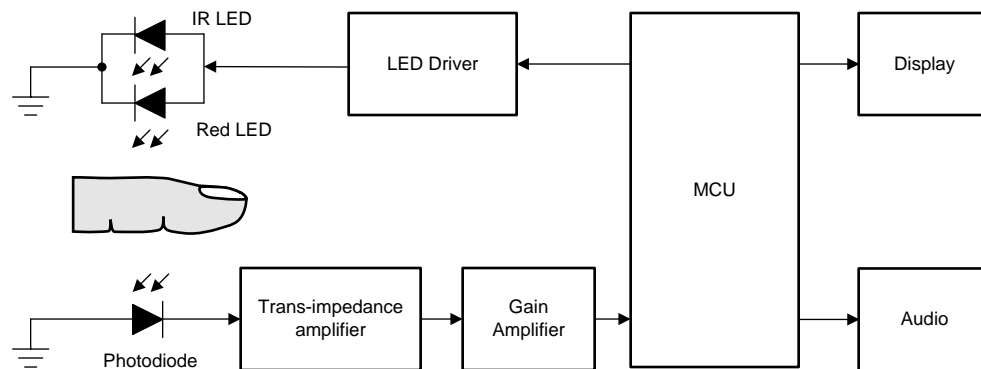

Figure 1. High-Level Block Diagram of a Pulse Oximeter (power supply not shown)
In principle, the oxygenated hemoglobin (HbO₂) and de-oxygenated hemoglobin (Hb) respond differently to different wavelengths of light. De-oxygenated hemoglobin absorbs more red light compared to infrared (IR) light whereas oxygenated hemoglobin absorbs more infrared light. As Figure 1 shows, when Red and IR Light Emitting Diodes (LEDs) are driven alternately through a finger, the unabsorbed light received at the other end of the finger (where a photodiode is used as the sensing element) corresponds to the concentration of Hb and HbO₂ in the blood.